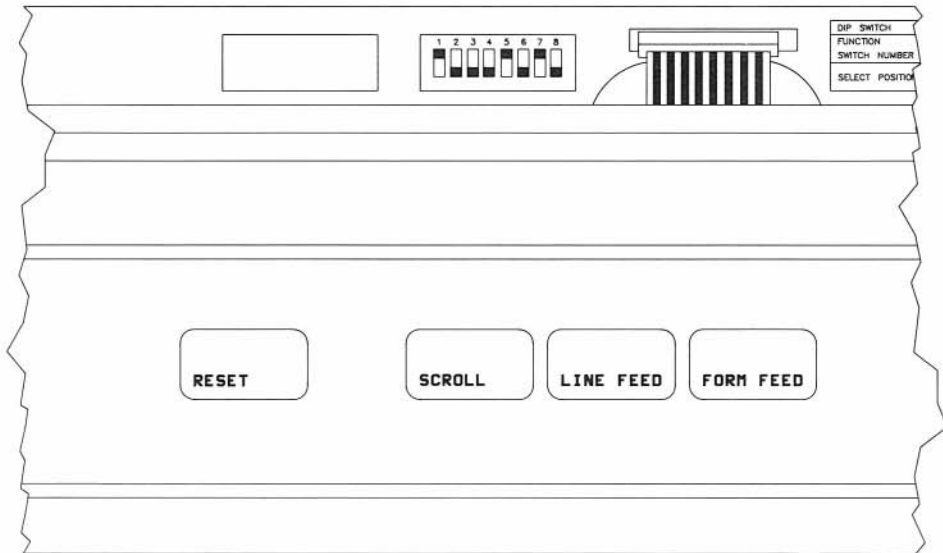

Figure 7-1. HP 2601A Printer Switch Settings.
- a. Lift the printer's top cover and locate the Right DIP Switch module (see Figure 7-1). Set the switches to match those shown in Figure 7-1: